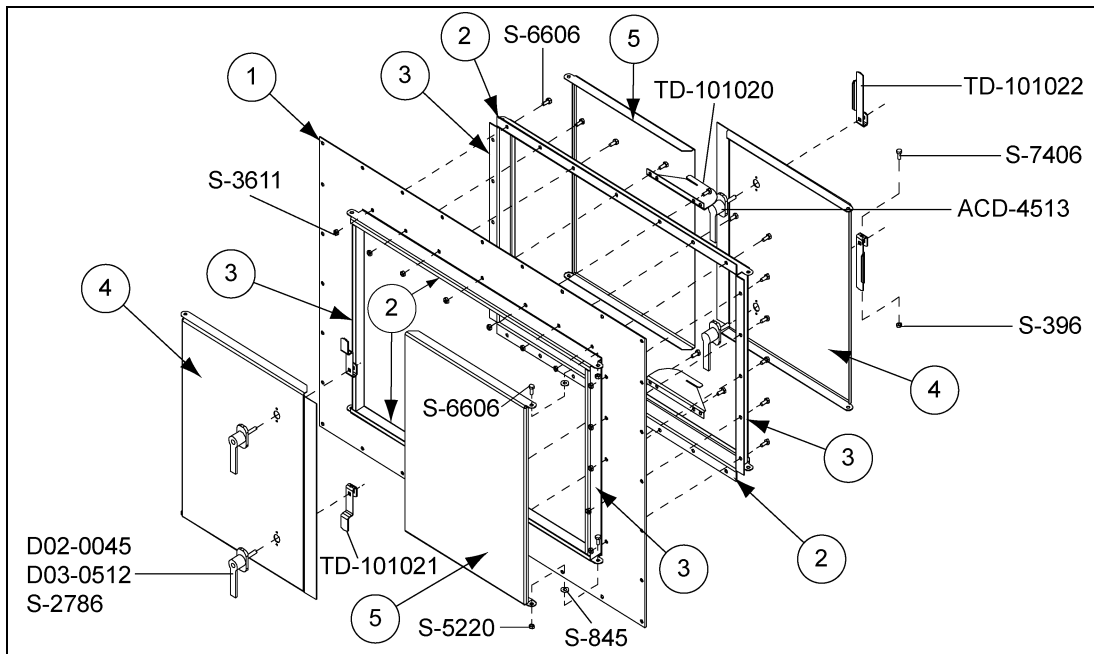

Figure 9L
5. With the nut and bolt supplied, attach the appropriate latches to the handles and lock them. (See Figure 9L.) Adjust front latches (TD-101021) to catch the inside lip of the front Z-frames. Adjust rear latches (TD-101022) to fit the slot in the top and bottom catches attached to the rear Z-frames.